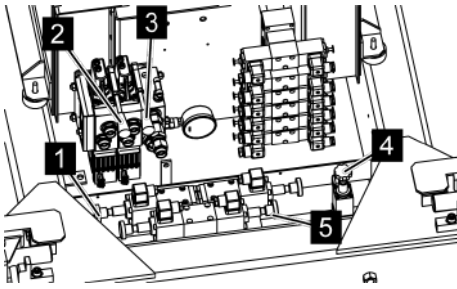

Fig. 142: Shuttle valves
4. ➤ For chain operation, lock the shuttle valves (Fig. 142/1 and 5).
5. ➤ Select the speed with the valve (Fig. 142/4) (unlocked = crawl speed, snapped in = fast speed).
7. ➤ Using the valves (Fig. 142/2 and 3) control the chains (also refer to Chapter 6.14 'Valve settings and operation' on page 112).
8. ➤ After service operation, unlock the shuttle valves (Fig. 142/1 and 5).
- Make sure that for normal operation, the shuttle valves (Fig. 142/1 and 5) are completely unlocked.